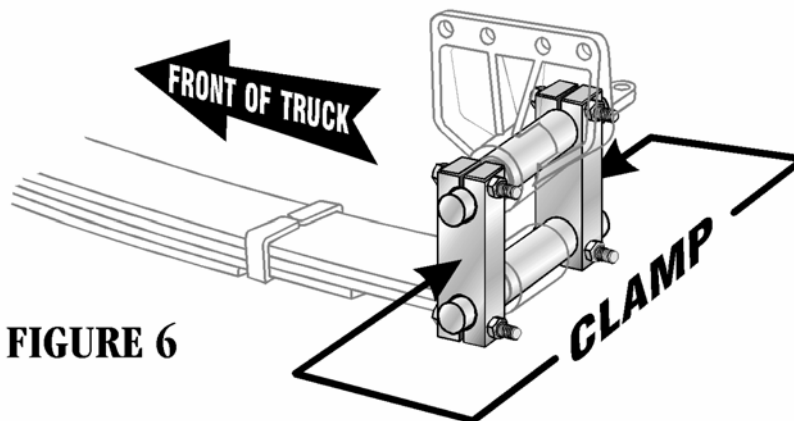

FIGURE 6
1. Using a "C" clamp compress both shackle sidebars so as to fit snugly together (see Figure 6).